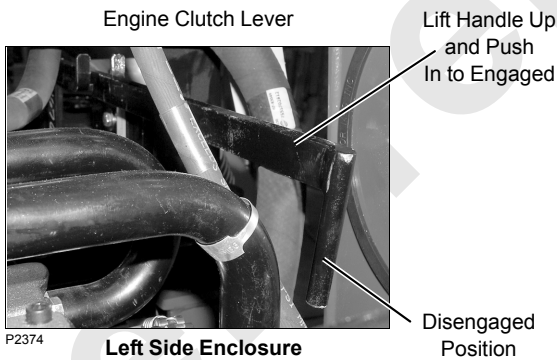

FIGURE 2-14
6. At the engine, disengage engine clutch (Figure 2-14).
3. Disconnect electrical (DIN) connectors (5) from solenoids.
4. At engine, disengage engine clutch (Figure 2-14).